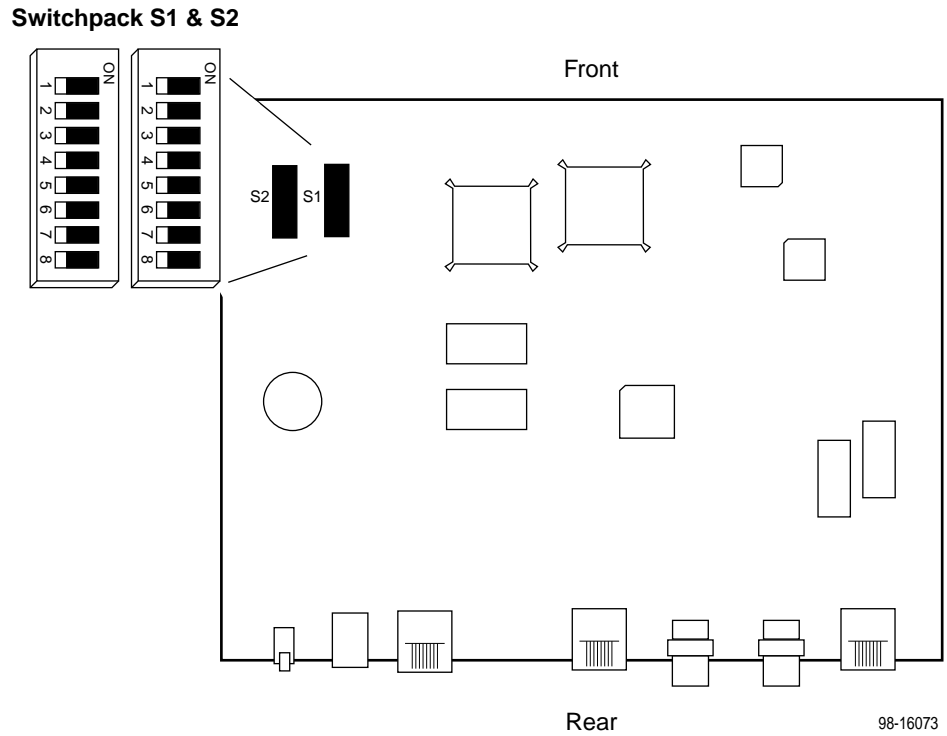

Figure 3-1. Hotwire Model 7976 Standalone Termination Unit Switchpack Locations
Use internal Switchpacks S1 and S2 to manually configure the unit. Use Figure 3-1 to locate Switchpacks S1 and S2.
2. Locate Switchpack S1 using Figure 3-1.
4. After you enable the switchpacks, you must set the switches to your desired configuration. Refer to Figure 3-1 and Table 3-1.
Use Figure 3-1 to locate Switchpacks S1 and S2.